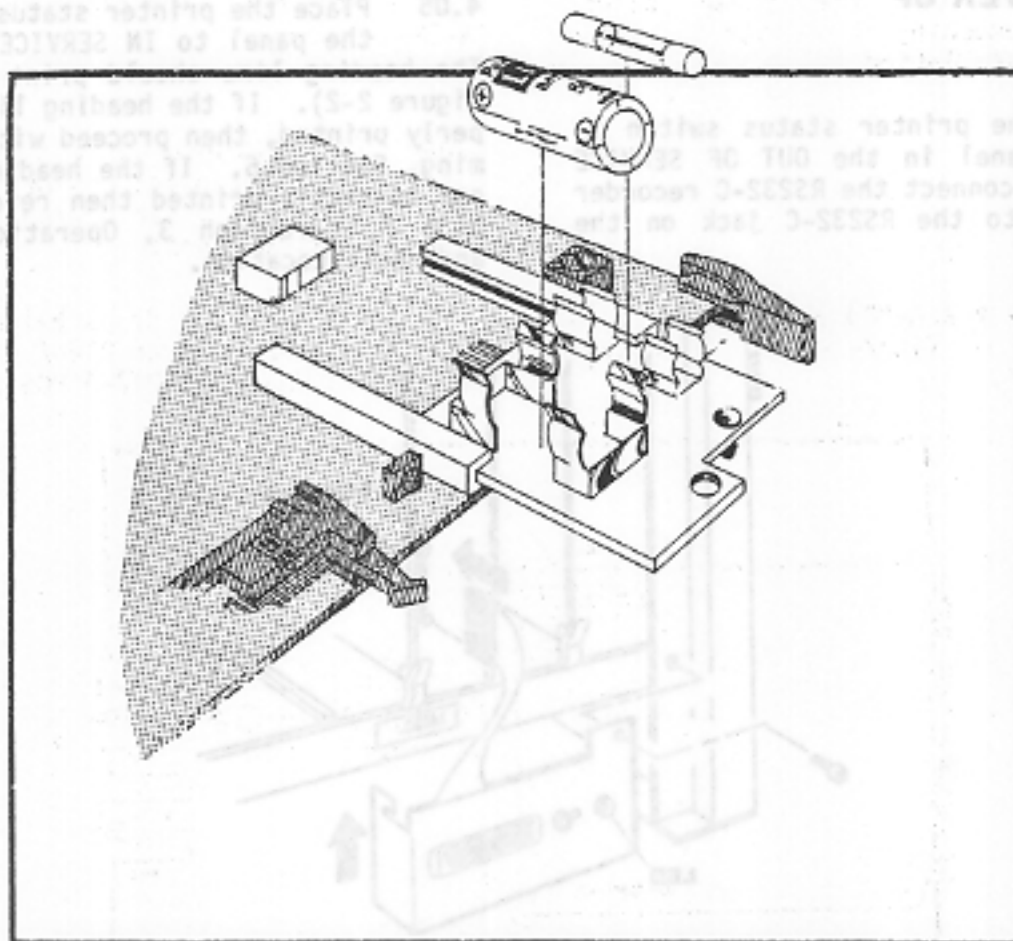

Figure 5-2 BTB-A Installation.
2.05 Observe the polarity markings on the battery and on the BTB-A PCB. Carefully insert the battery into the clips with the proper orientation. Check the 0.25 AMP fuse to see that it is intact (refer to figure 5-2).